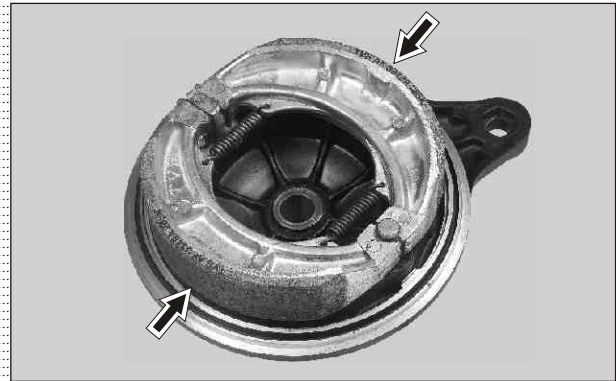

Fig. 2.87
- Remove brake shoe set (rear) from the panel assembly rear along with spring brake shoe. (Fig. 2.87)